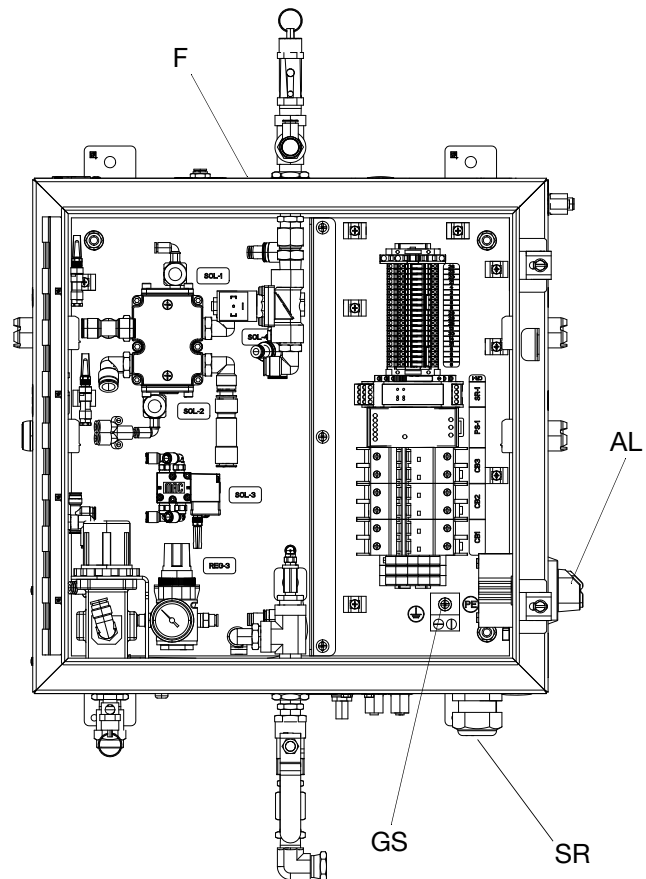

FIG. 17
1. Shut off system power at the main circuit breaker and verify the System Disconnect (AL) is turned off.
2. Open the door of the Control Box (F).
3. Connect a ground wire to the ground lug (GS) shown in FIG. 17.
4. Connect power wires to the corresponding locations per the label on the Control Box's (F) Disconnect Switch (AL). See FIG. 17. Torque the disconnect terminals to 17.7 in. lb. (2 N•m). For more information, refer to **Electrical Diagrams** on page 96.
5. Replace the cover on the Control Box (F).